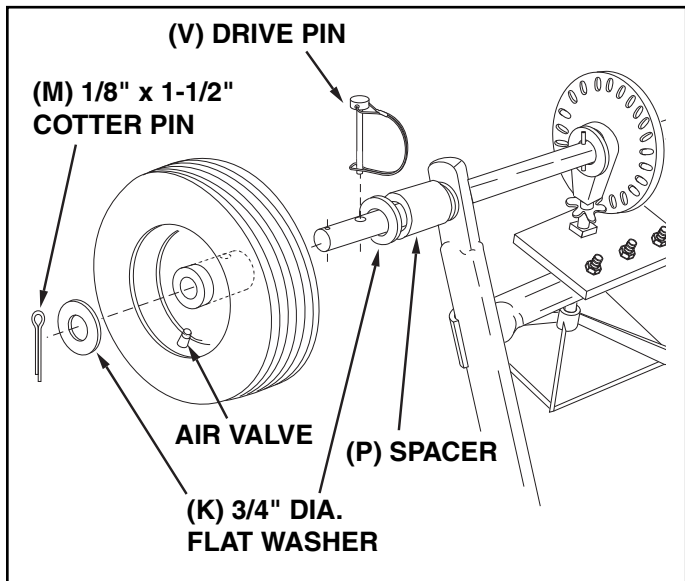

FIGURE 4
9. Assemble a spacer (P), a 3/4" flat washer (K), a wheel (air valve facing out) and another 3/4" flat washer (K) onto the end of the axle that has both the **large and small holes**. See figure 4.
10. Install a 1/8" x 1-1/2" cotter pin (M) into the small hole in the end of the axle. See figure 4.
11. Open the bail on the drive pin (V) and install it through the wheel and the large hole in the axle. Close the bail to lock the pin in place. See figure 4.
(Refer to figure 4 on page 5.)